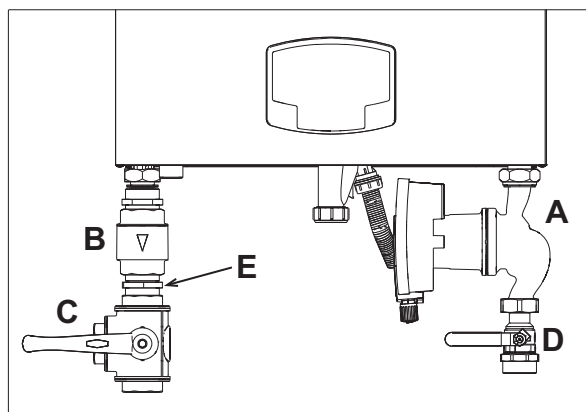

fig. 36- Boiler with installed kits
code 042070X0 - HIGH EFFICIENCY CIRCULATING PUMP KIT- 7m. (A - fig. 36)
code 042071X0 - HIGH EFFICIENCY CIRCULATING PUMP KIT- 10m. (A - fig. 36)
- 1 NON-RETURN VALVE - Female 1"1/2 (B - fig. 36)**
- 2 3-Way FAUCET - Female 1"1/2 (C - fig. 36)**
- 3 FAUCET Male/Female 1"1/2 (D - fig. 36)**
- 4 CONNECTION NIPPLE 1"1/2 (E - fig. 36)**